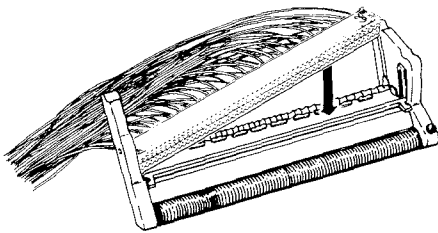

Fig. 96—Place module into stripped head.
- n. Place existing module (module to be bridged onto) into "stripped" splicing head. See Figure 96.